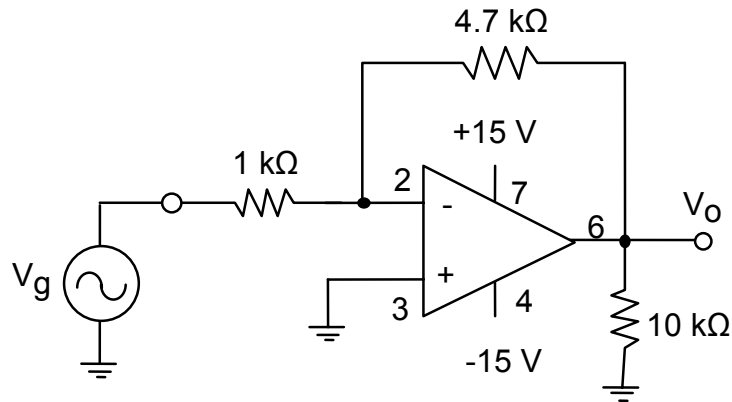

Fig 3: Inverting amplifier schematic
- (1) Assemble the inverting amplifier circuit shown in figure 3. Remember to shut off the +/-15 V supply before assembling a new circuit. Use the decade resistor box for the 4.7k $\Omega$  resistor. Note that there are additional connections to ground in this circuit.
- (2) Apply a 1 Volt amplitude, 1kHz sine wave at the input, and display both input and output on the oscilloscope. Measure the voltage gain of this circuit, and compare to the theory discussed in class. Make a plot of the input/output waveforms in your notebook.
- (3) Increase the feedback resistance from 4.7k $\Omega$  to 10k $\Omega$  . What is the gain now? Slowly increase the amplitude of the input signal to 2 Volts. What happens? Describe and draw waveforms in your notebook. Can you explain this behavior?